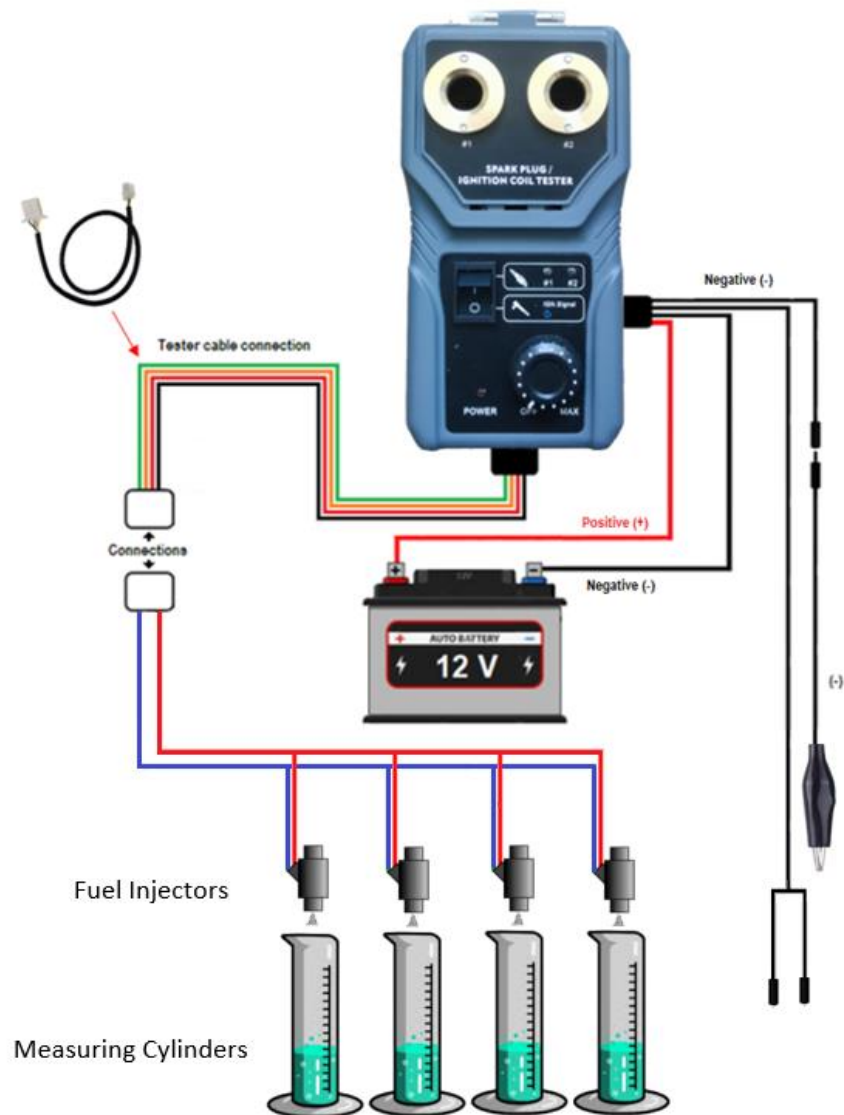

Fig. 18
2. Place the Spark plugs into both or either one of its slots (Fig.18 below), press firmly downwards to ensure that it is securely held in it.
2. Hook up the Fuel Injectors circuits as according to the above schematic (Fig. 18). To test its spray volume, it has to be connected to a pressurised line.